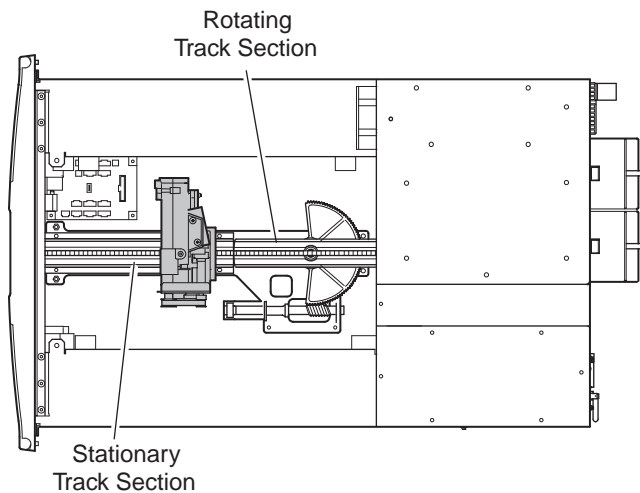
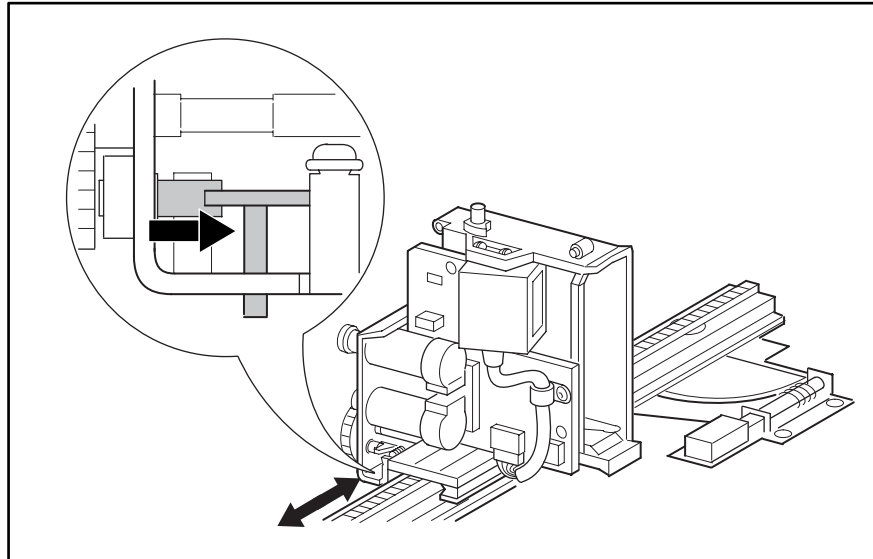

Figure 2-3: Shuttle assembly in the parked position
Figure 2-4: Shuttle assembly brake
2. Look through the view port at the front of the library to determine if the shuttle assembly is in the parked position (see Figure 2-3 and 2-4).
7. Release the brake by moving the brake release lever to the right (see arrow in Figure 2-4). Push the shuttle assembly at the base near the track until the shuttle assembly is completely on the stationary track section (see Figure 2-3).